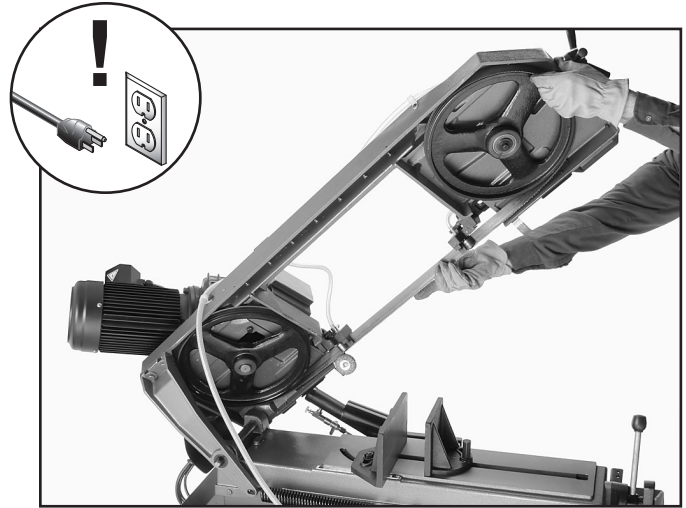

Figure 35. Installing blade.
4. Install the new blade through both blade guide bearings, as shown in **Figure 35**, and around the bottom wheel.